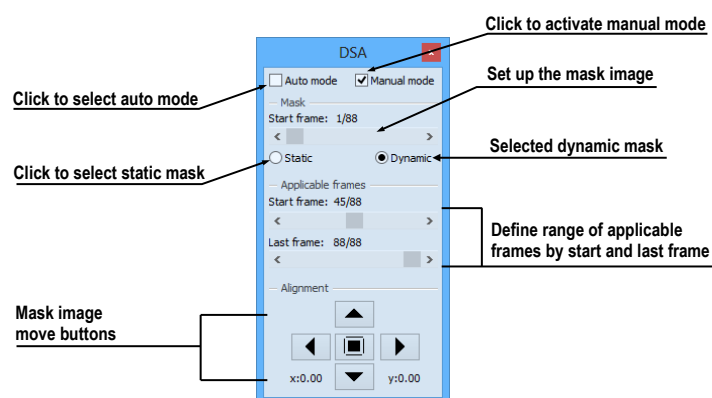

Figure 159 – DSA tool
2. Select the **Manual mode** in the **DSA** tool (see Figure 159).